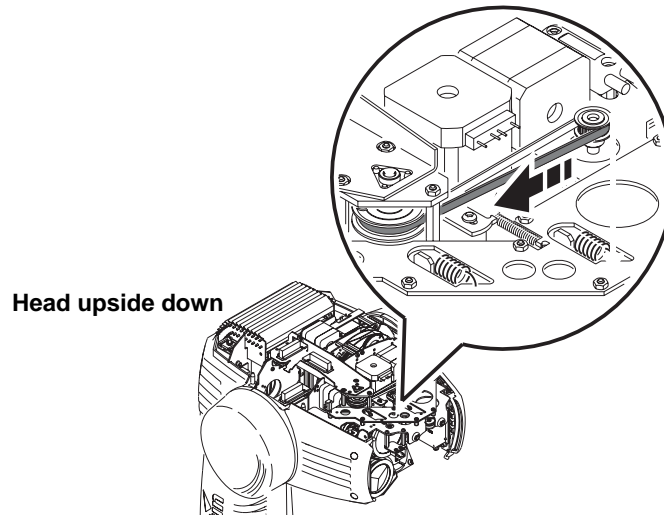

Figure 16: Moving the focus lens forward
5. Flip the head upside-down. Move the focus lens to its forward limit by pulling on its belt as shown in Figure 16.